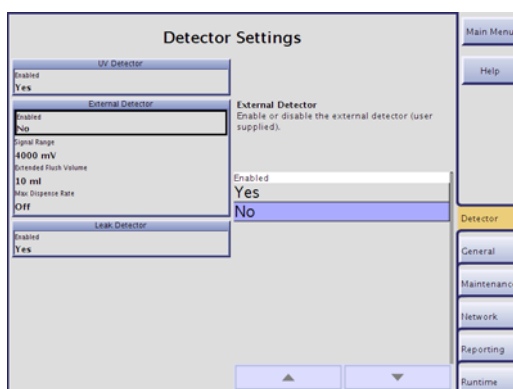

Figure 1-6. System Mode
In the System mode, the software is divided into six (6) tabs that can be accessed in the right-hand panel (see Figure 1-6). Here is a short description of what you can do at each tab: